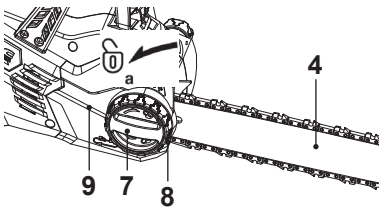

Fig. 8
2. Slightly loosen the locking wheel (7).
3. Turn the tension wheel (8) until the chain "tie straps" are just touching the bottom edge of the guide bar(4)(Figs. 8, 9).